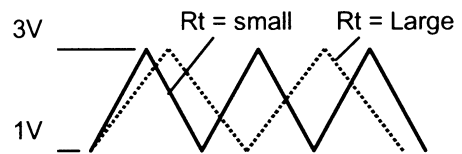

Fig. 2 Oscillator output
The built-in capacitor voltage oscillates between about 3V and 1V, with almost the same charging and discharging gradients (Figure 2). You can set the desired oscillation frequency by changing the gradients using the resistor connected to the RT pin. (Large R_t = low frequency, small R_t = high frequency) The oscillation frequency is automatically lowered when output duty cycle is small ($FB \leq$ about 1.18V) in light load mode. For more information, see item 2, "Reducing oscillation frequency circuit in light-load mode."